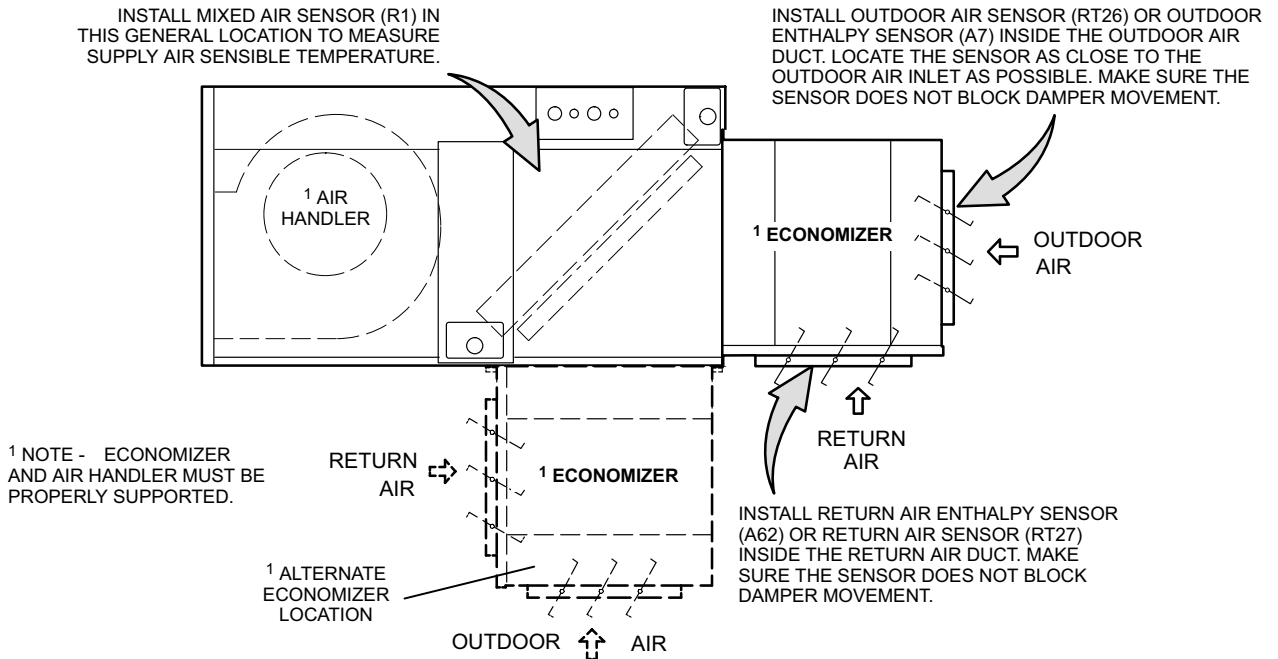

FIGURE 4
- 3- Replace existing RT26 OA sensor, if applicable, and replace with new A7 sensor from this kit. See figure 4 for sensor location.
- 4- Remove economizer control access panel. See figure 4.
- 3- Replace existing RT26 OA sensor with new A7 kit sensor set to "OA". See figure 4 for sensor location.
- 5- On A6 economizer control, remove orange wires going to terminals marked "OAT" and reconnect them to free terminals marked "S-BUS". See figure 4.